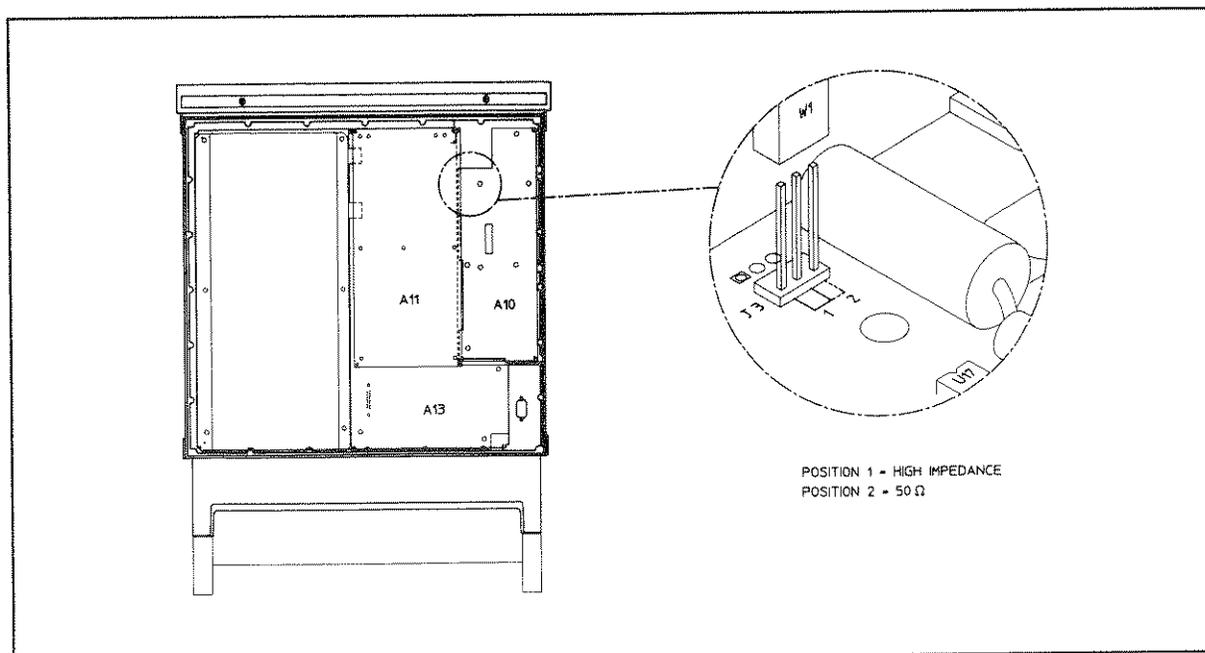

Figure 2-5. Pulse Modulation Input Impedance Selection
- d. Refer to Figure 2-5. Locate the selection link W1. When this is set to position 1, the input impedance is set to 50 ohms; when it is set to position 2, the input impedance is set to high impedance. Set W1 into the position you require.